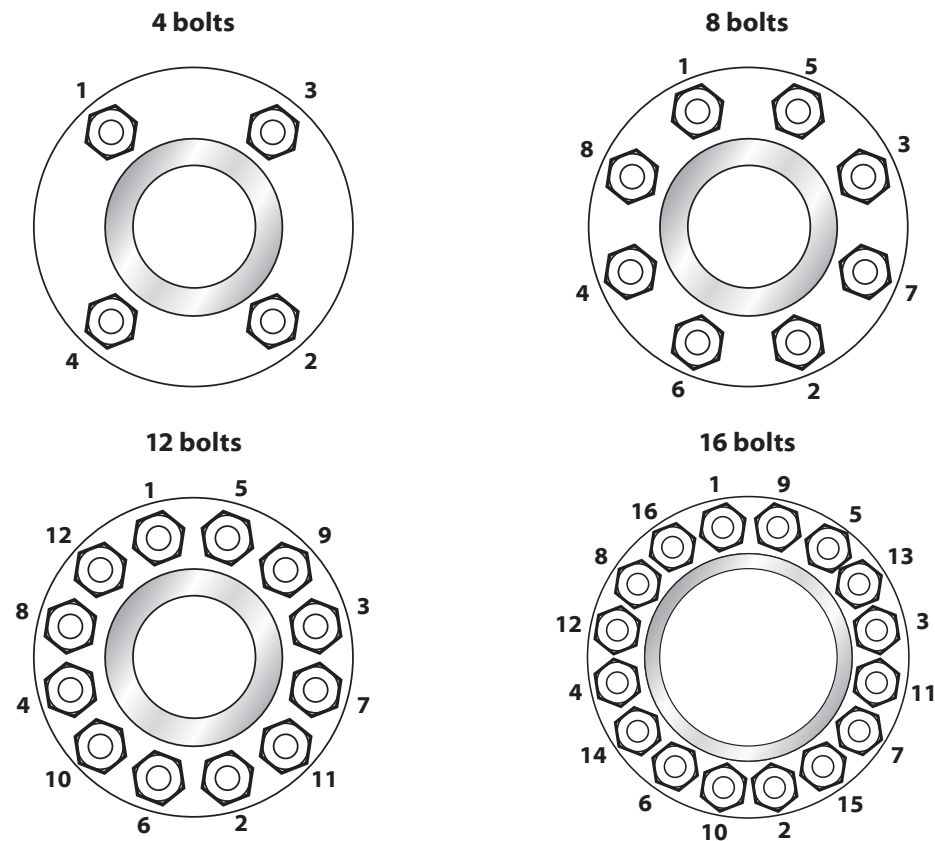

Fig.5-7 Tightening flange bolts
7. The flange bolts must be tightened cross-wise acc. (→ Fig.5-7)